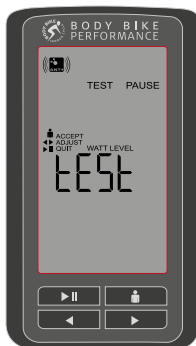

Figure 39
- 2) Enter the test by pressing **F** until you reach the test screen, see figure 39.